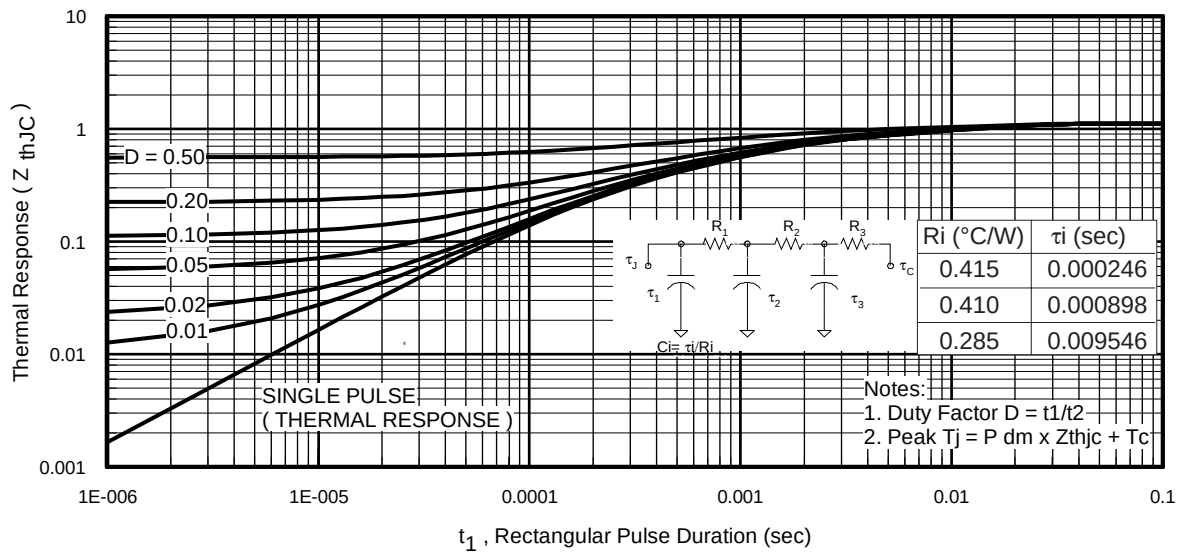
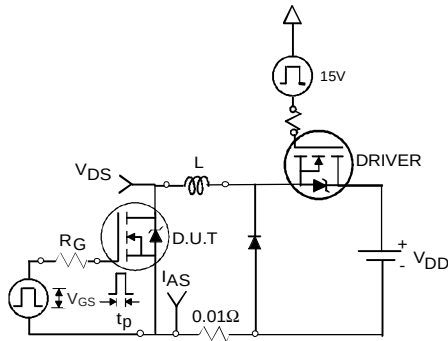

Fig 11. Maximum Effective Transient Thermal Impedance, Junction-to-Case
Fig 12a. Unclamped Inductive Test Circuit
- ① Repetitive rating; pulse width limited by max. junction temperature. (See fig. 11).
- ② Limited by T_{Jmax} , starting $T_J = 25^\circ\text{C}$, $L = 0.077mH$, $R_G = 25\Omega$, $I_{AS} = 51A$, $V_{GS} = 10V$. Part not recommended for use above this value.
- ③ $I_{SD} \leq 51A$, $di/dt \leq 260A/\mu s$, $V_{DD} \leq V_{(BR)DSS}$, $T_J \leq 175^\circ\text{C}$.
- ④ Pulse width $\leq 1.0ms$; duty cycle $\leq 2\%$.
- ⑤ $C_{oss\text{ eff.}}$ is a fixed capacitance that gives the same charging time as C_{oss} while V_{DS} is rising from 0 to 80% V_{DSS} .
- ⑥ Limited by T_{Jmax} , see Fig.12a, 12b, 15, 16 for typical repetitive avalanche performance.
- ⑦ This value determined from sample failure population. 100% tested to this value in production.
- ⑧ This is applied to D²Pak, when mounted on 1" square PCB (FR-4 or G-10 Material). For recommended footprint and soldering techniques refer to application note #AN-994.
3. Equation below based on circuit and waveforms shown in Figures 12a, 12b.
$Z_{thJC}(D, t_{av})$ = Transient thermal resistance, see figure 11)